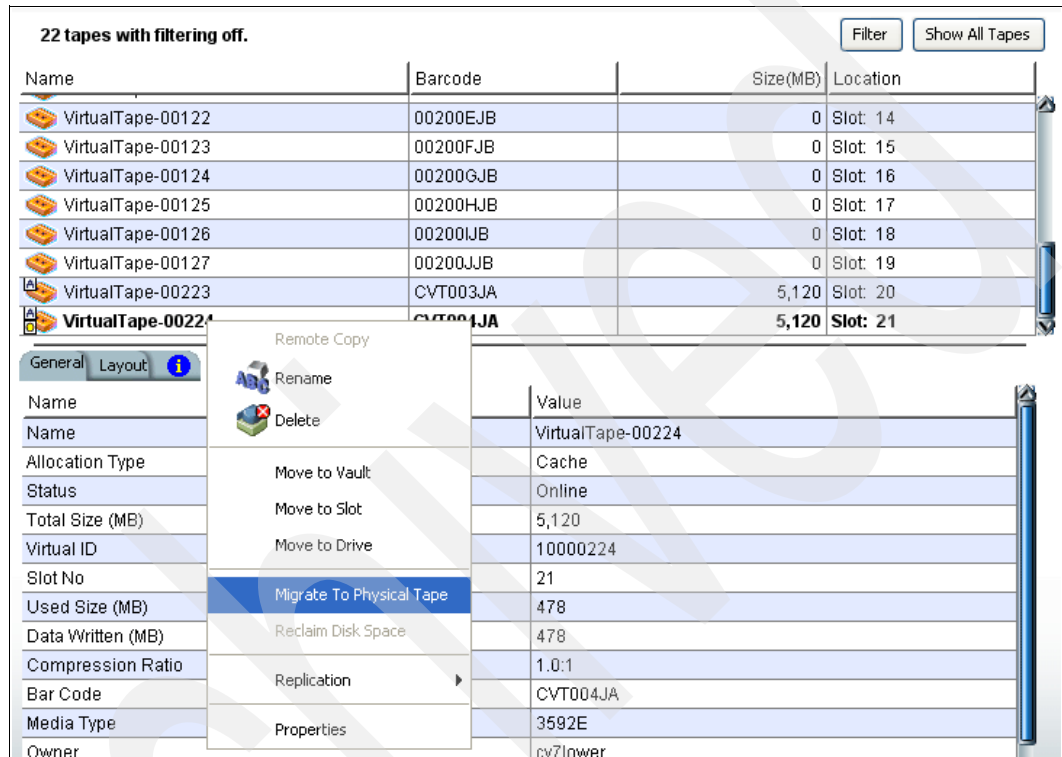

Figure 12-49 Manual migration to a physical tape volume
1. As shown in Figure 12-49, right-click a cached virtual tape volume and select **Migrate to Physical Tape**. Note that migration to physical tape overwrites all data on the physical tape volume with the matching barcode.